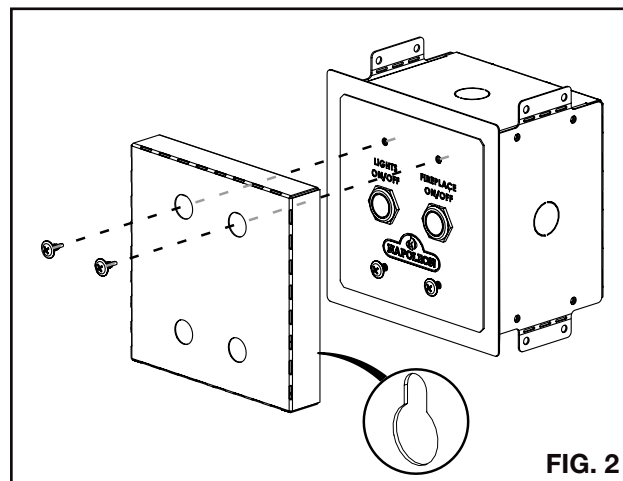

FIG. 2
2. Attach the switch box finishing materials template to the assembled control switch (FIG 2.)